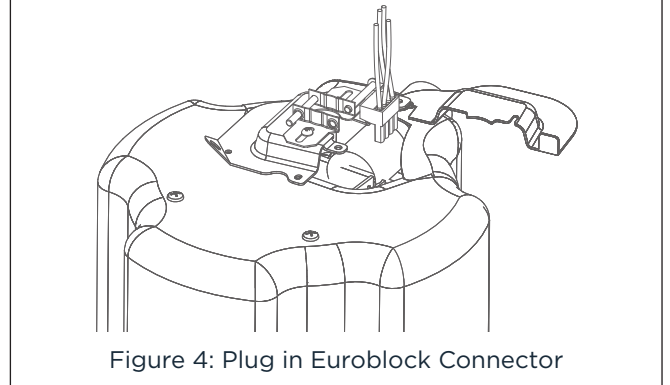

Figure 4: Plug in Euroblock Connector
4. Once all the wires are terminated, plug the green Euroblock connector into the back of the speaker (see Figure 4).